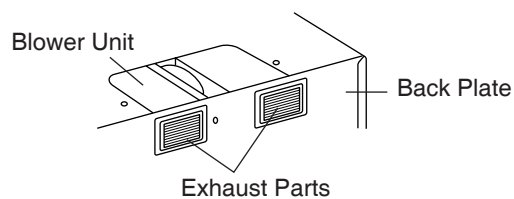

Fig. 1-3-4
- (6) Replace blower unit back into product. Be careful not to pinch the lead wires between blower unit and oven top. Make sure the fan blades are visible through the exhaust openings on the back plate. (Fig. 1-3-4)